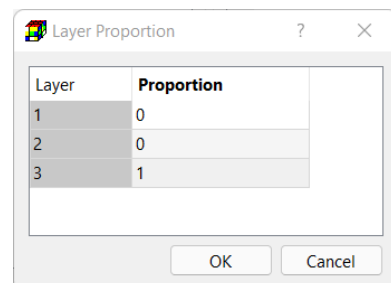

Figure 33. The Layer Proportion dialog box
- **Layer:** This column displays the model layers of observation points. Double-click on a cell of this column to open the Layer Proportion dialog box (Figure 33) for the respective observation point. The simulated head values at an observation point are calculated as
- **Layer Proportion**: Select this option to open the Layer Proportion dialog box (Figure 33), and to assign the define Layer Proportion values to the selected observation points.